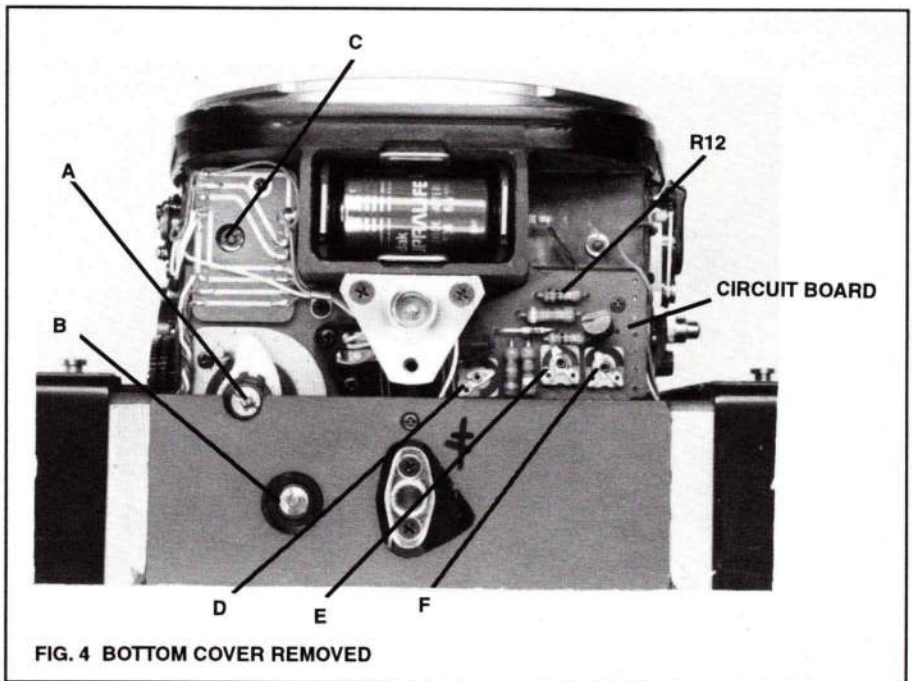
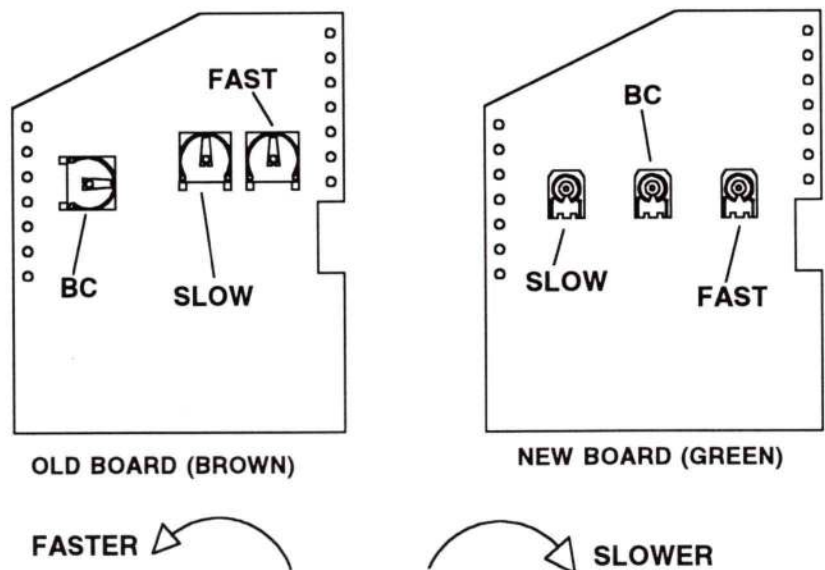
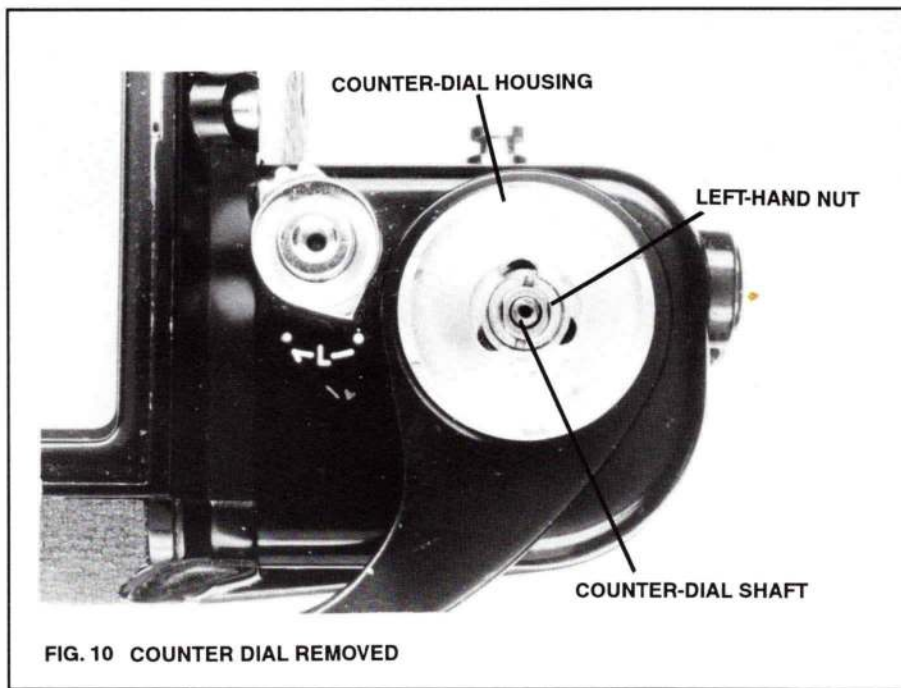
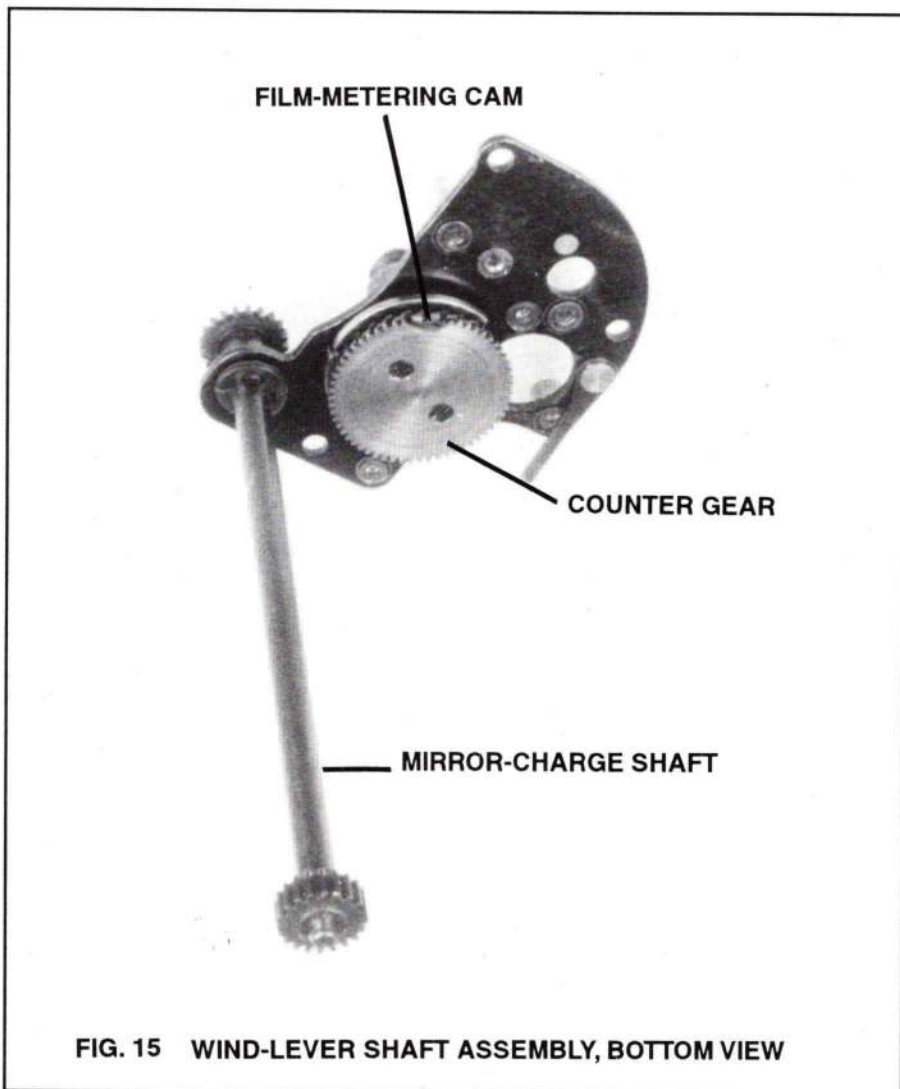

FIG. 4 BOTTOM COVER REMOVED
FIG. 6 ADJUSTMENTS ON OLD-STYLE CIRCUIT BOARD (LEFT) AND NEW-STYLE CIRCUIT BOARD
FIG. 10 COUNTER DIAL REMOVED
FIG. 15 WIND-LEVER SHAFT ASSEMBLY, BOTTOM VIEW
\*Fig. 4 shows the old-style circuit board (brown board). The variable resistors are in different locations in the new-style board (green board), Fig. 21. Fig. 6 shows the adjustments on both boards.
a. Check at 1 second. Adjust the slow-speed VR, Fig. 6, for an accurate exposure time. Turn the wiper counterclockwise for a faster speed, clockwise for a slower speed.
b. Check at 1/1000 second. Adjust the fast-speed VR, Fig. 6, for an accurate exposure time. Turn the wiper counterclockwise for a faster speed, clockwise for a slower speed.
9. **Mirror angle.** Adjust the mirror angle with the adjustment screw at the release side of the mirror box—adjust with setscrew C, Fig. 4.
ing) position, there should be a space gap of 0.3mm between the other mirror damper (speed-knob side of mirror box) and the mirror. Adjust with the other damper-adjustment setscrew (to the right of the battery box in Fig. 4).
**Locations of left-hand threads:** nut holding counter-dial housing, Fig. 10, adjustment nuts and setscrews for curtain brakes, Fig. 4 (A and B)
**Caution:** Avoid pushing down the counter-dial shaft, Fig. 10—if the counter-dial shaft moves down, you'll lose the initial tension on the counter-return spring. Retensioning the counter-return spring requires removing the wind-lever shaft assembly, Fig. 15.
3. unscrew left-hand nut holding counter-dial housing, Fig. 10
1. The counter-dial housing has 3 slots for hooking the upper end of the wind-lever spring, Fig. 10. Align the counter-dial housing with the flat sides of the wind-lever shaft so that 1 slot faces the back of the camera—hook the upper end of the wind-lever spring to this slot.
2. As a precaution, temporarily replace the counter dial to prevent the counter-dial shaft from moving down. If the counter-dial shaft moves down slightly, the film-metering cam may disengage from its stop pin on the underside of the wind-lever shaft assembly, Fig. 15. The counter-return spring then loses its initial tension. To retension the counter-return spring, it's necessary to remove the wind-lever shaft assembly, Fig. 15.
7. lift out wind-lever shaft assembly together with mirror-charge shaft, Fig. 15
- a. Looking from the bottom of the wind-lever shaft assembly, Fig. 15, turn the counter gear clockwise to its stop—the post on the film-metering cam then comes against the post on the base plate.